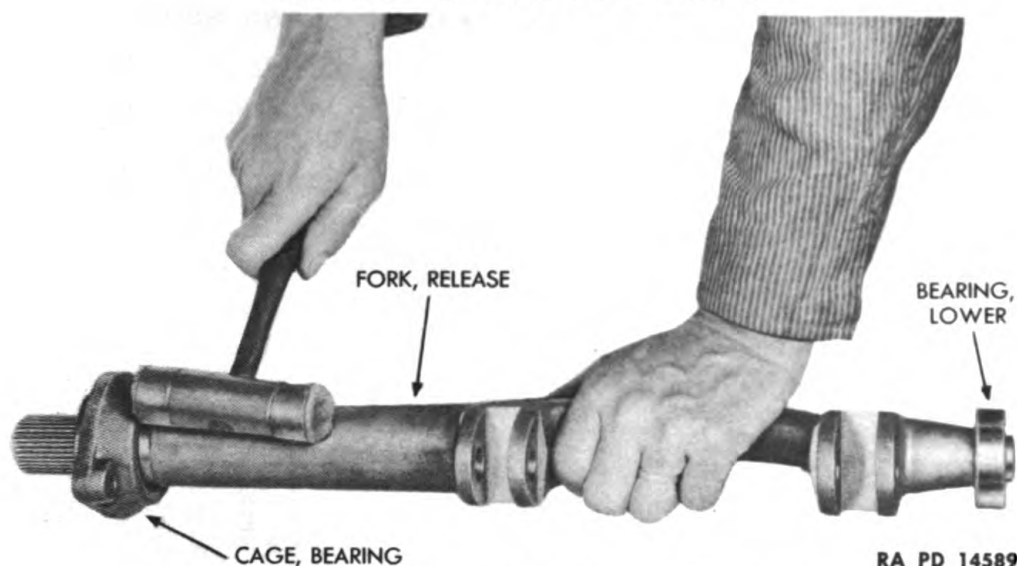

Figure 104 — Release Fork Parts Removed
(14) REMOVE PARTS FROM RELEASE FORK (fig. 104).